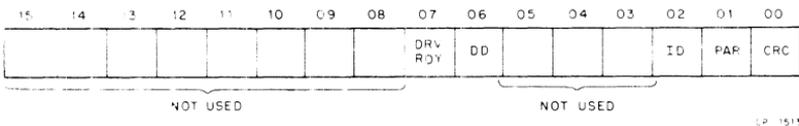

Figure 7 RXES Format
**RX Error and Status (RXES) (Figure 7)** – This register contains the current error and status conditions of the drive selected by bit 4 (unit select) of the RXCS. This read-only register can be addressed only under the protocol of the function in progress. The RXES is located in the RXDB upon completion of a function. Table 4 lists the RXES bit descriptions.